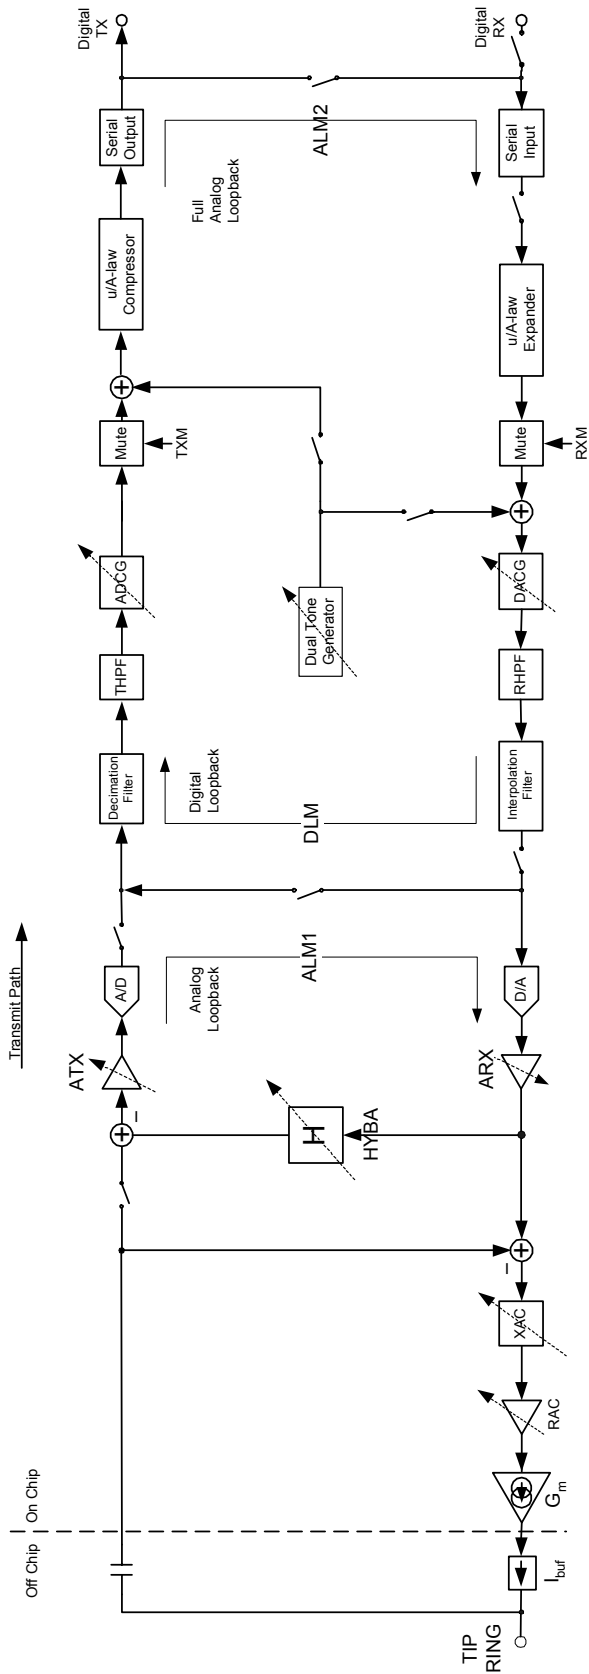

Figure 24. AC Signal Path Block Diagram
Unlike traditional SLICs, the codec function is integrated into the ProSLIC. The 16-bit codec offers software-selectable 200 Hz to 3.4 kHz narrowband and 50 Hz to 7 kHz (Si3216 only) wideband audio modes, programmable gain/attenuation blocks, and several loop-back modes. The signal path block diagram is shown in Figure 24.
The ProSLIC provides programmable transhybrid balance with gain block H. (See Figure 24.) In the ideal case where the synthesized SLIC impedance exactly matches the subscriber loop impedance, the transhybrid balance should be set to subtract a -6 dB level from the transmit path signal. The transhybrid balance gain can be adjusted from -2.77 dB to $+4.08$ dB around the ideal setting of -6 dB by programming the HYBA[2:0] bits of the Hybrid Control register (direct Register 11). Adjusting any of the analog or digital gain blocks does not require any modification of the transhybrid balance gain block, as the transhybrid gain is subtracted from the transmit path signal prior to any gain adjustment stages. The transhybrid balance can also be disabled, if desired, using the appropriate register setting.
- The full analog loopback (ALM2) tests almost all the circuitry of both the transmit and receive paths. The transmit data stream is fed back serially to the input of the receive path expander. (See Figure 24.) The signal path starts with the analog signal at the input of the transmit path and ends with an analog signal at the output of the receive path.
- An additional analog loopback (ALM1) takes the digital stream at the output of the A/D converter and feeds it back to the D/A converter. (See Figure 24.) The signal path starts with the analog signal at the input of the transmit path and ends with an analog signal at the output of the receive path. This loopback option allows testing of the analog signal processing circuitry of the ProSLIC completely independently of any activity in the DSP.
- The full digital loopback tests almost all the circuitry of both the transmit and receive paths. The analog signal at the output of the receive path is fed back to the input of the transmit path by way of the hybrid filter path. (See Figure 24.) The signal path starts with PCM data input to the receive path and ends with PCM data at the output of the transmit path.
Real and complex two-wire impedances are realized by internal feedback of a programmable amplifier (RAC), a switched capacitor network (XAC), and a transconductance amplifier (G_m) (See Figure 24.) RAC creates the real portion, and XAC creates the imaginary portion of the ac impedance. G_m then creates a current that models the desired impedance value to the subscriber loop. The differential ac current is fed to the